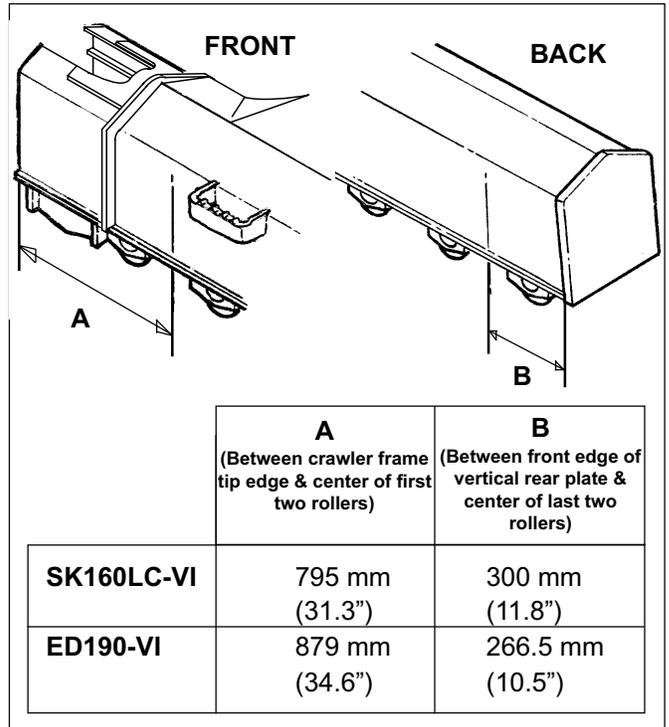

FIGURE 5.5B
- a. Locate lifting locations at the front and rear of each crawler frame. See Figure 5.5B.